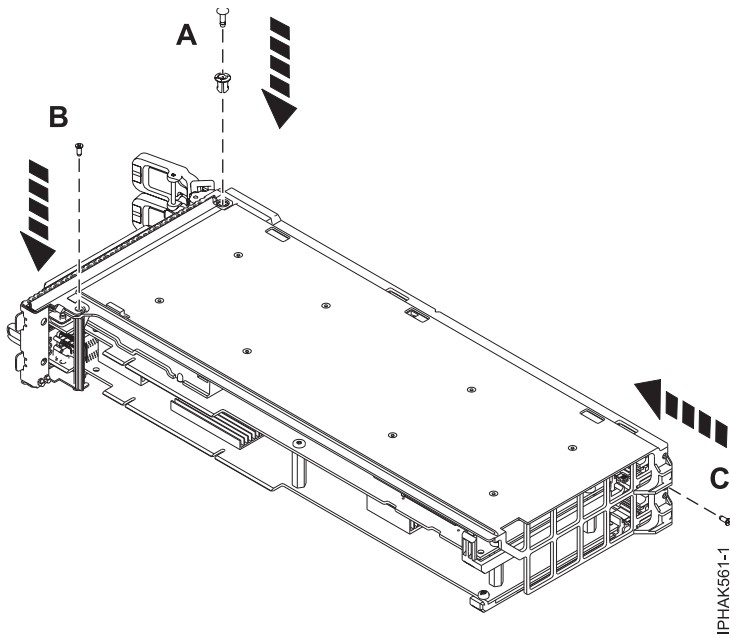

Figure 62. Attaching the push pin and screws
9. Attach the push pin (A) to the top of cassette assembly by the tail stock and press into place. See Figure 62.
10. Secure the small, Phillips screw (B) into the bottom of the tail stock. See Figure 62.
11. Secure the small, Phillips screw (C) at the rear of the cassette assembly. See Figure 62.